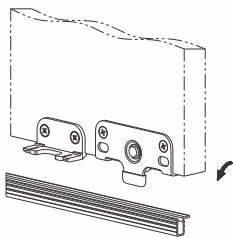

Fig.6
6. Engage the bottom guide into the bottom track by tilting as shown in Fig. 6. (Note: Always engage the outer shutter first).
5. Fit the stopper onto the top side of both the inner and outer shutter as shown in Fig. 6. For dimensions refer Fig. 1.
7. Drill Ø4.5mm hole on the track & fit the Rubber Buffer to the track using M4 screw & nut provided as shown in Fig.6.